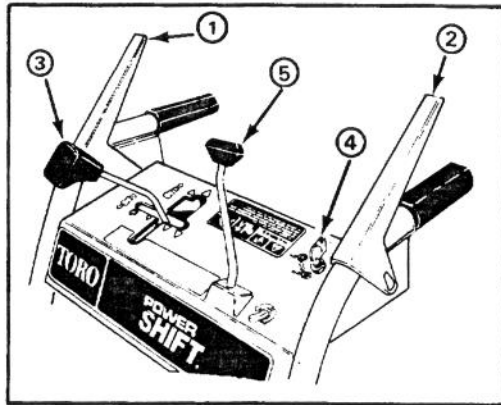

Figure 9.
Auger/Impeller Control (Fig. 9) — Control has two positions: ENGAGE and DISENGAGE. To engage auger and impeller, compress lever against right handle grip. To disengage, release lever.
Traction Drive Control (Fig. 9) — To engage traction or activate power shift system, lever must be compressed against left handle grip. To stop traction, release lever.
Speed Shift Control (Fig. 9) — The control has four speeds forward and two reverse. To select speeds, move shift control to desired position.
Auger Lock-Up: (Fig. 9) — When auger/impeller control and traction drive control are both compressed, the traction control locks the auger/impeller control down. Releasing the traction control releases the auger/impeller.
Discharge Chute Control (Fig. 9) — Rotate discharge chute control clockwise to move discharge chute to the right and counterclockwise to move chute to the left.
Ignition Switch (Fig. 9) — Switch has two positions: ON and OFF. Rotate key to ON position before starting engine. To stop engine, rotate key to OFF.
1. Move speed selector to N — neutral — and throttle to FAST (Fig. 9).
4. Rotate ignition key to ON (Fig. 9).
1. Release traction and auger/impeller drive controls (Fig. 9).